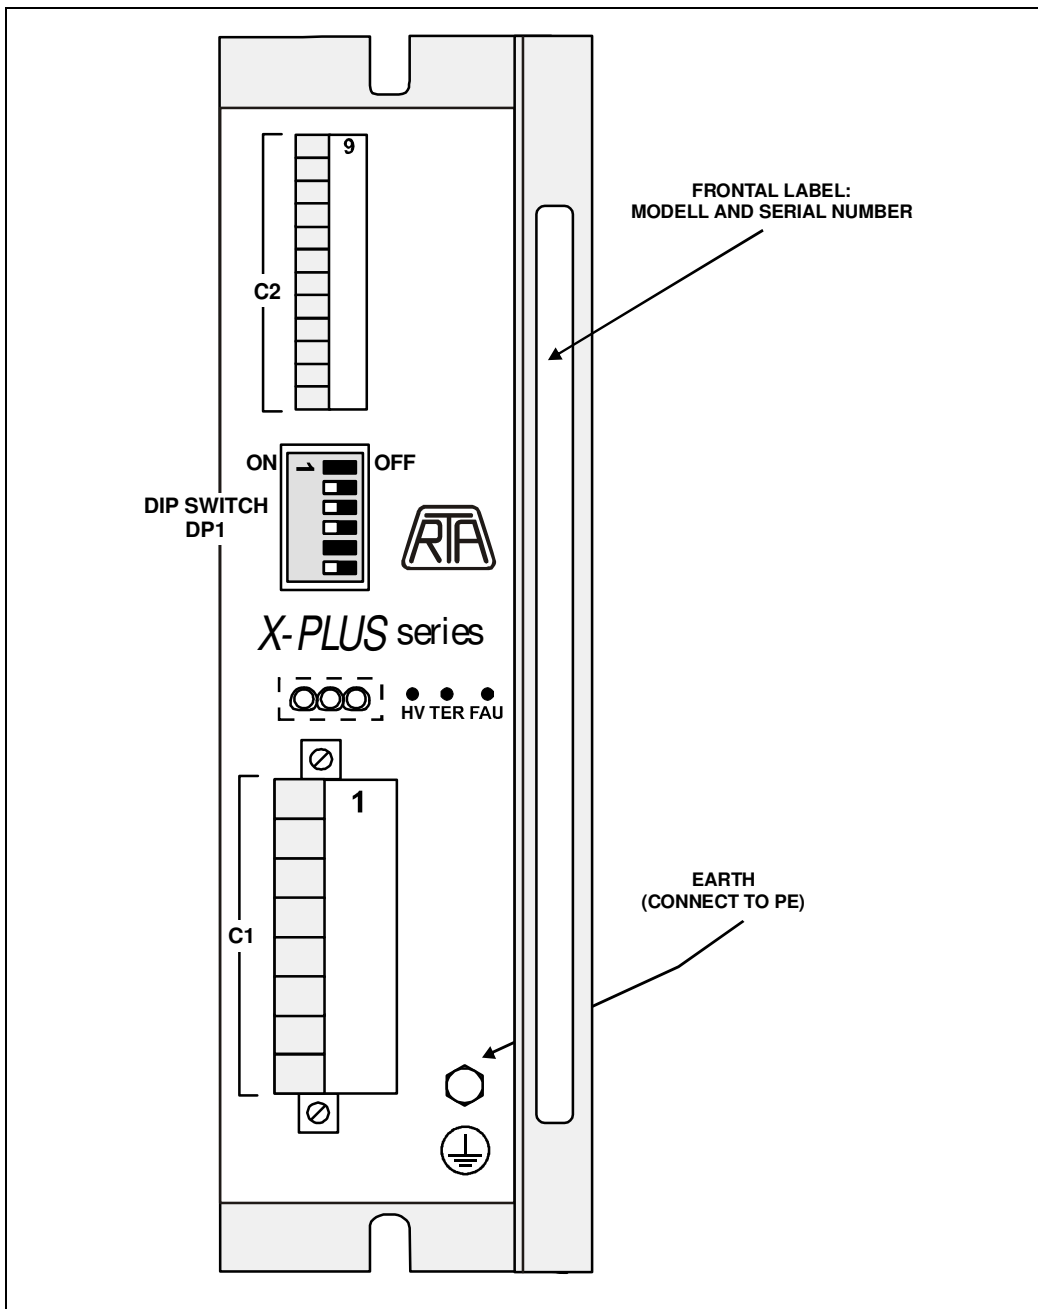

Fig. 4 – Dip-switch DP1, signalling leds and connectors.
6.2- Fig. 4 shows the position of DIP-SWITCH DP1, signalling LEDs, connectors and labels in X-PLUS B series drives.